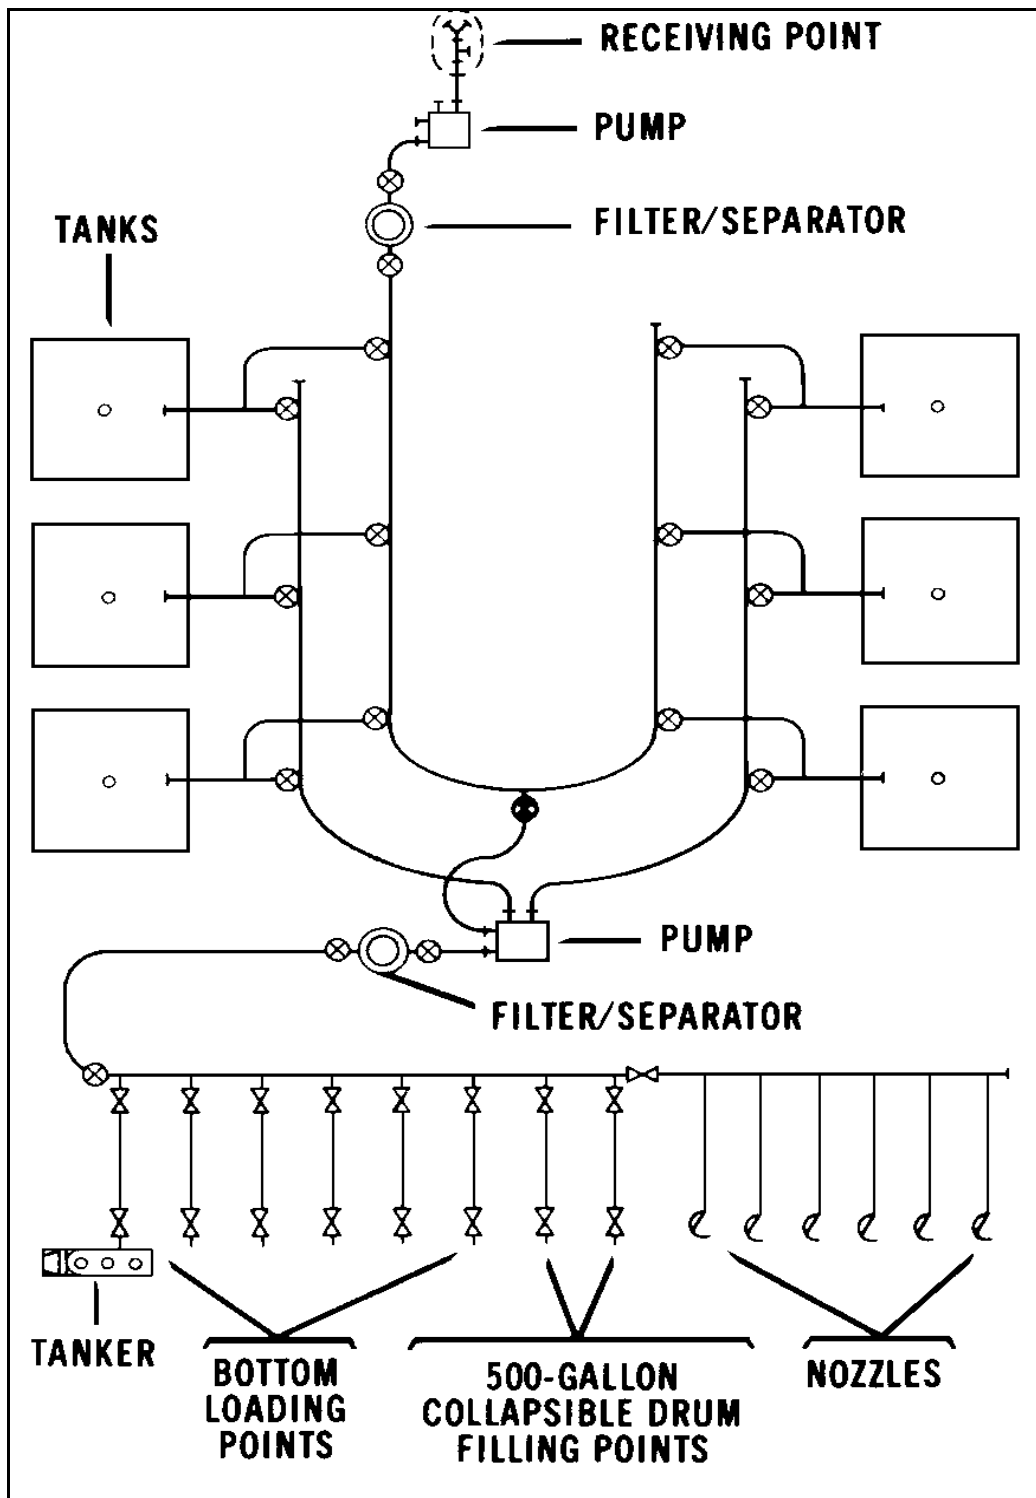

Figure 28-4. Issuing product from an FSSP to a tank vehicle
- Open the discharge valve on the pump, and increase its speed to operating speed. Pump at this rate until the tank vehicle is about three-fourths full. Then reduce the speed of the pump, and finish filling the tank at this rate. Figure 28-4, page 28-12, shows the product moving through the FSSP and into the tank vehicle.